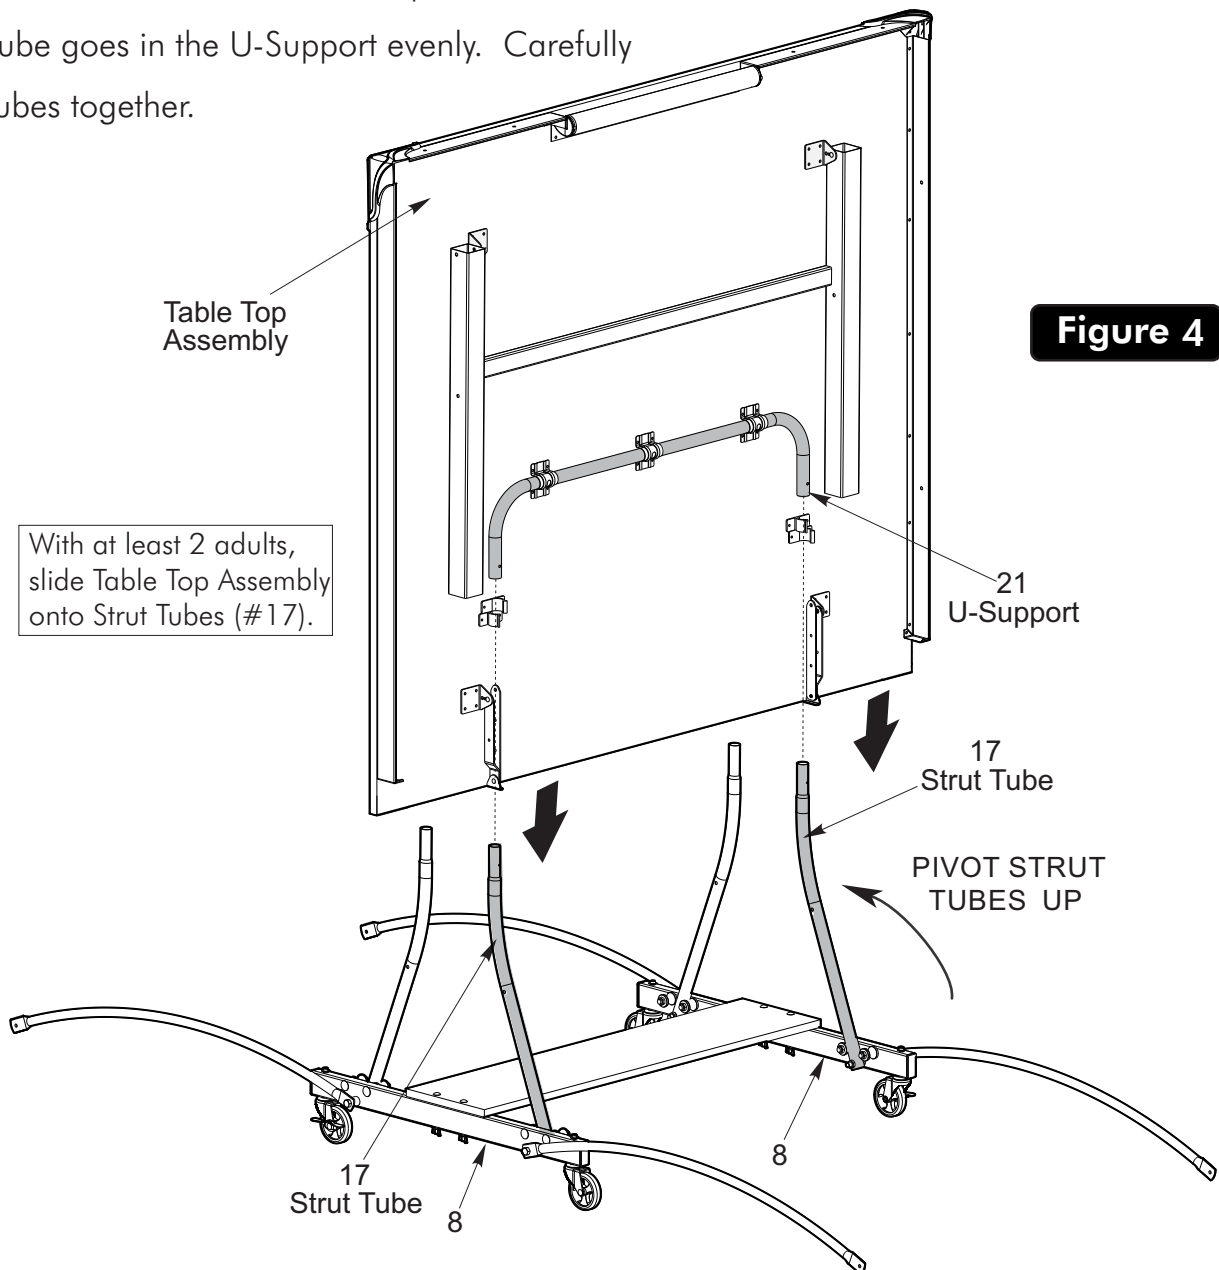

Figure 4
6. Attach Table Top Assembly to Base Assembly as shown in **Figure 4**. Pivot Strut Tubes (#17) up as shown; then, with **at least one adult on each side** of Table Top, lift top and align ends of U-support tube (#21) with tops of Strut Tubes (#17) as shown in **Figure 4**. Lower the table in a controlled manner and as even as possible so the Strut Tube goes in the U-Support evenly. Carefully slide tubes together.